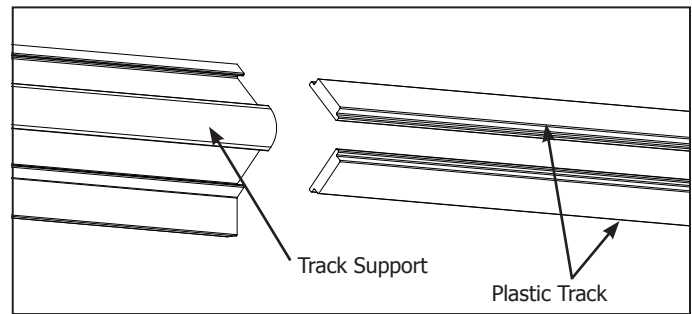

Fig. 7-3
**7-5:** Insert a plastic track completely into one side of the aluminum track supports (**Fig. 7-3**). The plastic track should slide into the track support easily. If a plastic track binds slightly, try backing it out a little, then try pushing it further. If the plastic binds badly, check the track supports for debris, burrs, misalignment or damage. In same manner, insert plastic track in other side of track support.